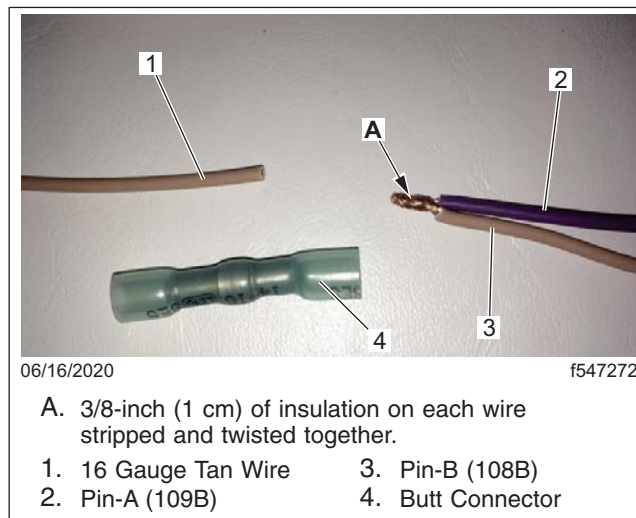

Fig. 4, 3/8-inch Wire Insulation Stripped and Twisted Together
- 7.1 Strip approximately 3/8-inch (1 cm) of insulation from wires 108B & 109B. Twist the two wires together. See **Fig. 4**.
- 10.1 Strip approximately 3/8-inch (1 cm) of insulation from the cut frontwall harness side of the wire 108C and the tan wire from the 3-pin connector. Twist the two wires together. See Fig. 4.